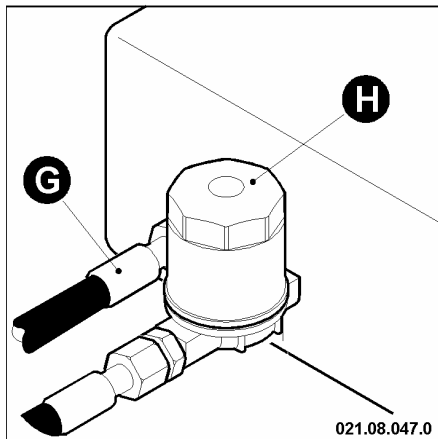

fig. 52 – Substitution of oil filters
Your machine features two hydraulic oil circuit filters. These are located on the front part of the chassis, under the body. One of the filters is an immersion-type filter (this filter is screwed directly into the tank) (*see fig. 52, pos. “G”*). The other filter is a cartridge-type filter (*see fig. 52, pos. “H”*) (this filter is positioned in the immediate
To substitute, carefully follow the described operations (see fig 52):
**Replacement::** to replace the filter, follow these instructions (see fig. 52):